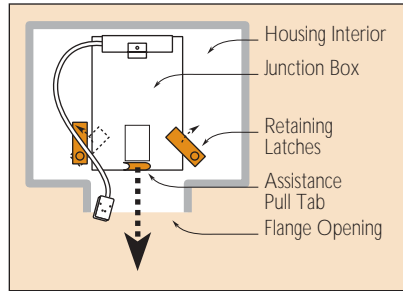

Fig. 1
- Use your index finger to pull the junction box Assistance Tab toward the Flange opening. Guide the bottom surface of the Junction Box into the Flange opening and remove it from the housing. (See Fig. 1)